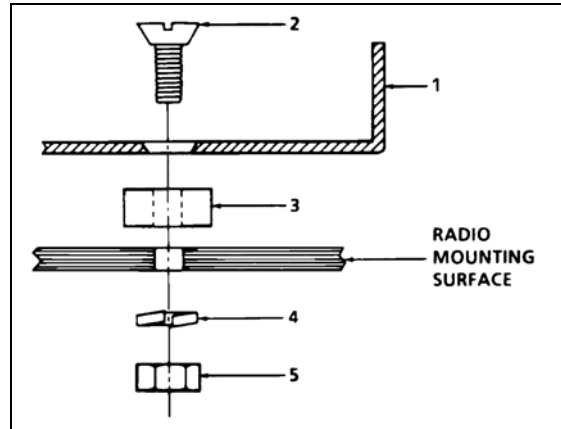

Figure 2-1-1 Clean Cab Mounting Tray Detail
To install the clean cab mounting tray onto the control stand brackets or other mounting surface, carry out the following steps (refer to Figure 2-1-1):
1. Using the clean cab tray (1) as a template, locate and drill four holes using a 7/32" drill bit (hole sized for a 10-32 screw).
2. Mount the tray using four 10-32 flat head screws (2) which have been cut to length needed. Due to the clips on the underside of the clean cab tray, four 3/8" high spacer washers (3) must be used.
3. Install the lock washers (4) and hex nuts (5) as shown in Figure 2-1-1 Clean Cab Mounting Tray Detail. Tighten all nuts and screws securely.